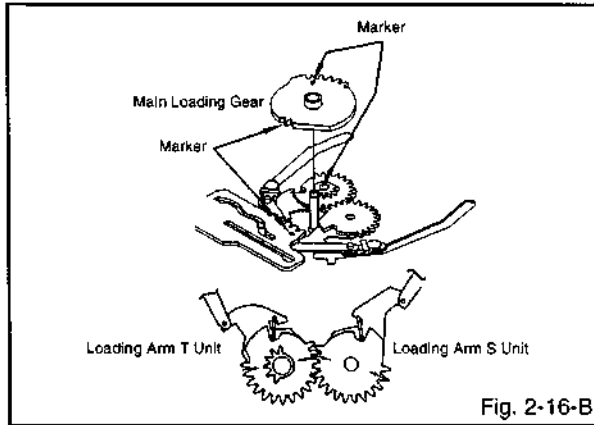

Fig. 2-16-B
2-16: LOADING GEAR S/T UNIT (Refer to Fig. 2-16-A)
1. When you install the Loading Arm S Unit, Loading Arm T Unit and Main Loading Gear, align each marker. (Refer to Fig. 2-16-B)